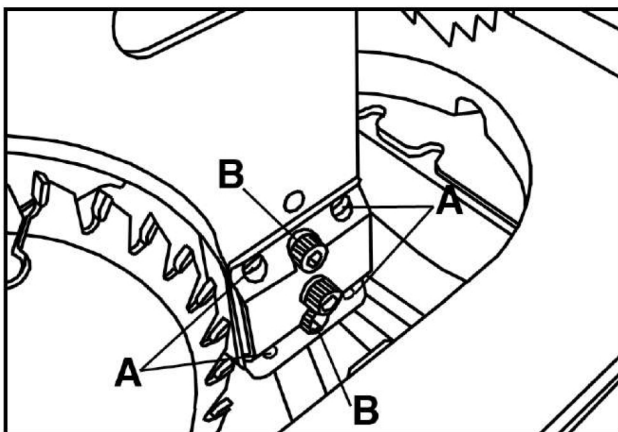

Fig.28
The blade guard splitter and/or riving knife must be aligned with the blade. If not properly aligned, the splitter/riving knife will force the workpiece sideways during the cut, increasing risk of kickback. Place a straightedge against the blade and the splitter or riving knife and check for parallelism. If an adjustment is needed, the mounting position can be adjusted into alignment with the blade using the adjustment set screws (A) (see Fig.28)
3. Loosen the upper and lower cap screws (B), then adjust the 4 set bscrews in or out until the alignment is perfectly parallel.